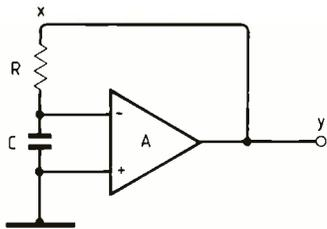

Fig.5. Op-amp oscillator for the minimalist: for practical reasons the grounded capacitor arrangement is very desirable.
Because of their numerous advantages, there has been considerable interest in the design of active-RC oscillator circuits with grounded capacitors. Besides a single grounded capacitor, our second circuit uses only a single resistor and a single operational amplifier. The circuit, therefore, uses the minimum number of passive and active elements (Fig.5).
For the circuit of Fig.5 to generate and sustain oscillations, equation 8 must equal unity. Substituting (1) into (8) and rearranging, then
The circuit of Fig.5 was built and tested with a 741 op-amp, polystyrene capacitors and metal film resistors. A typical waveform is shown in Fig.6.
Fig.6. Output waveform at 3kHz of the circuit in Fig.5 built with a 741 op-amp. The resistor is 19k $\Omega$ , the capacitor 1 $\mu$ F and the supply voltage  $\pm 15$ V.